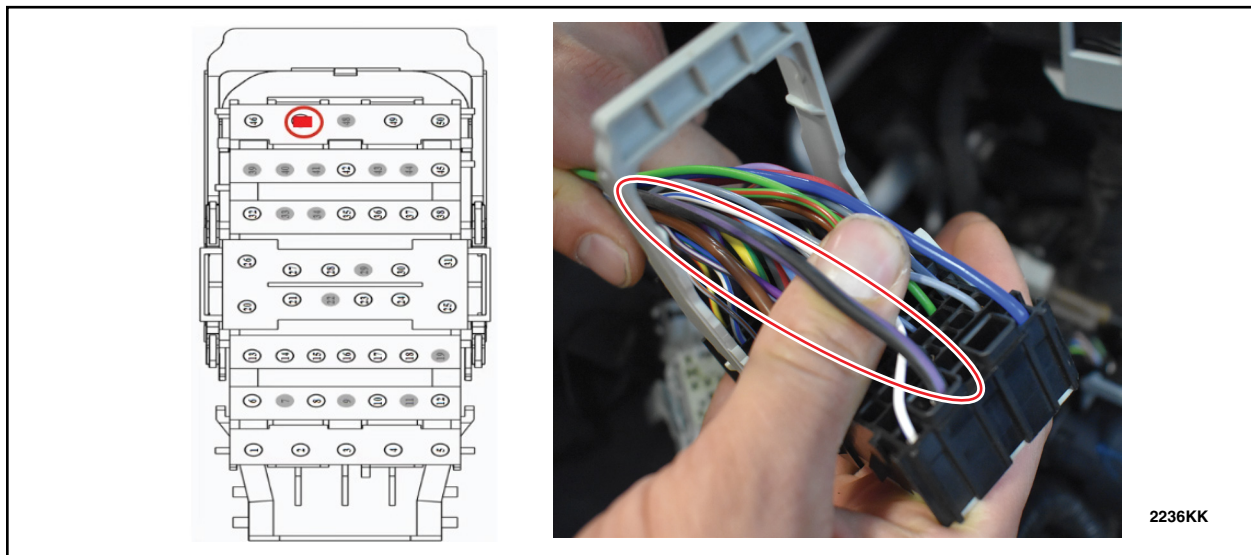

FIGURE 42
50. In connector C1035B identify cavity 47 which contains a black-violet wire. See Figure 42.